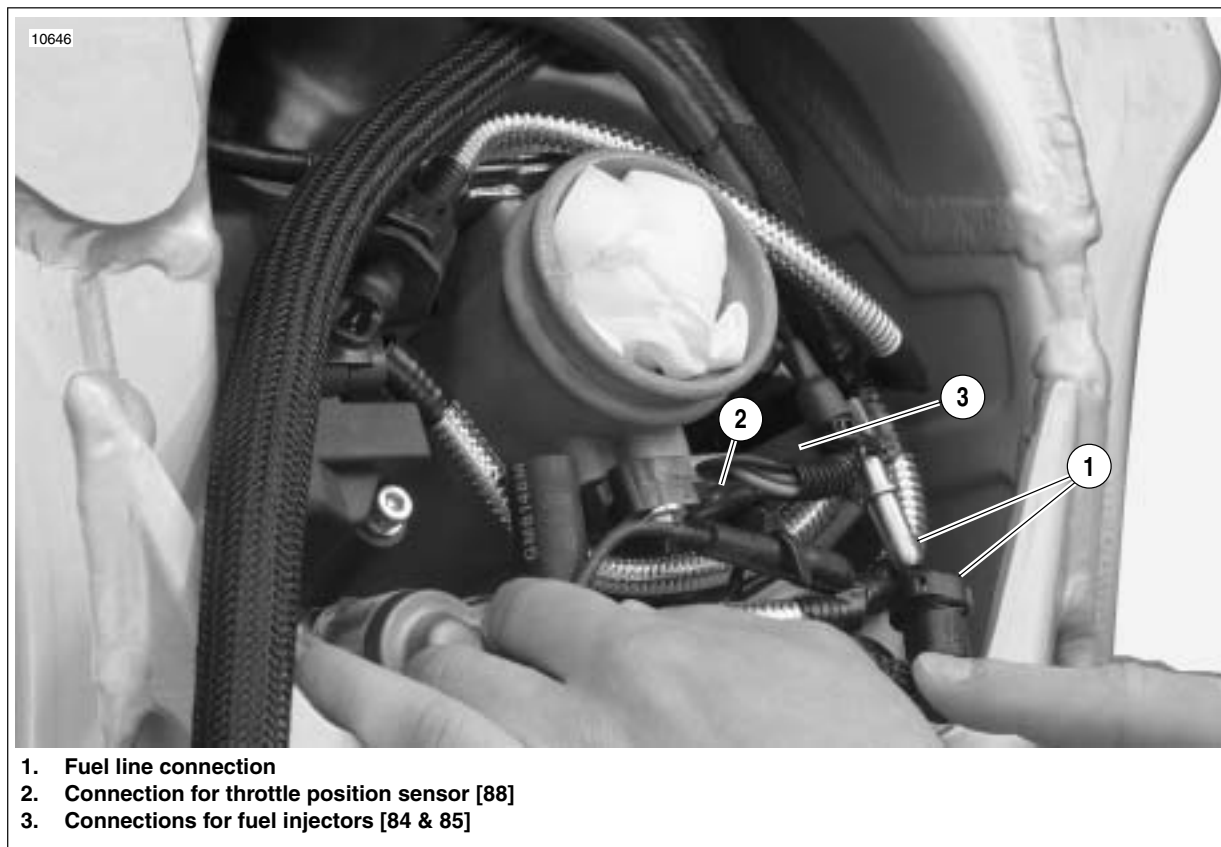

Figure 3-55. Fuel Line and DDFI Electrical Connections (Typical)
40. See Figure 3-55. Connect throttle position sensor [88].
42. Connect fuel line (1).